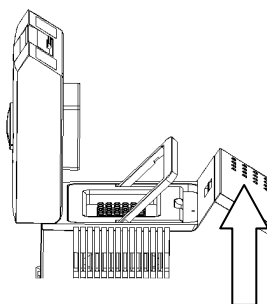

Figure 9
- Step 1: Move the handle to the state vertical to the shell to make the module parts unlocked. (See Figure 9)